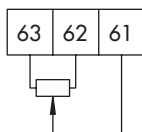

Fig. 6: Electrical connection
2. Perform electrical wiring according to Fig. 6 on page 16 and carefully refasten the front cover.
- ➔ Route wiring through the cable entries (1.2 in Fig. 1) and connect as shown in Fig. 6.
#### **Terminal assignment (Fig. 6):**